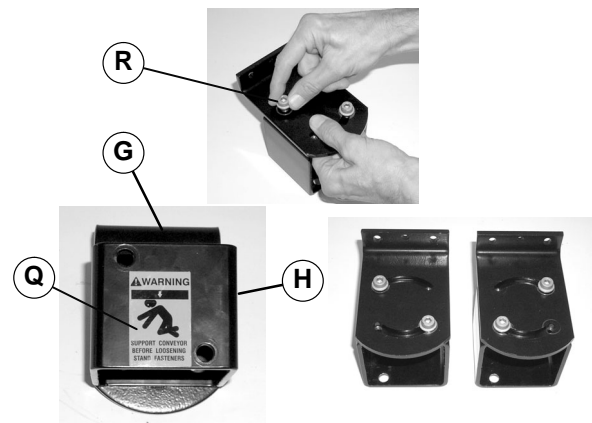

Figure 7
NOTE: Leg support bracket (H of Figure 7) must be installed on stand/conveyor mounting bracket(s) (G) with warning label (Q) facing out. When installed, round end of stand/conveyor mounting bracket will be down and warning label will be upright, as shown.
9. Attach leg support bracket (H of Figure 7) to stand/conveyor mounting bracket (G) with two flange socket head screws (R). Do not tighten screws.
10. Repeat step 9 for opposite leg support bracket (H of Figure 7). To ensure proper attachment of stand/conveyor mounting bracket to conveyor, install flange socket head screws (R) in opposite holes on opposite leg support bracket, as shown.